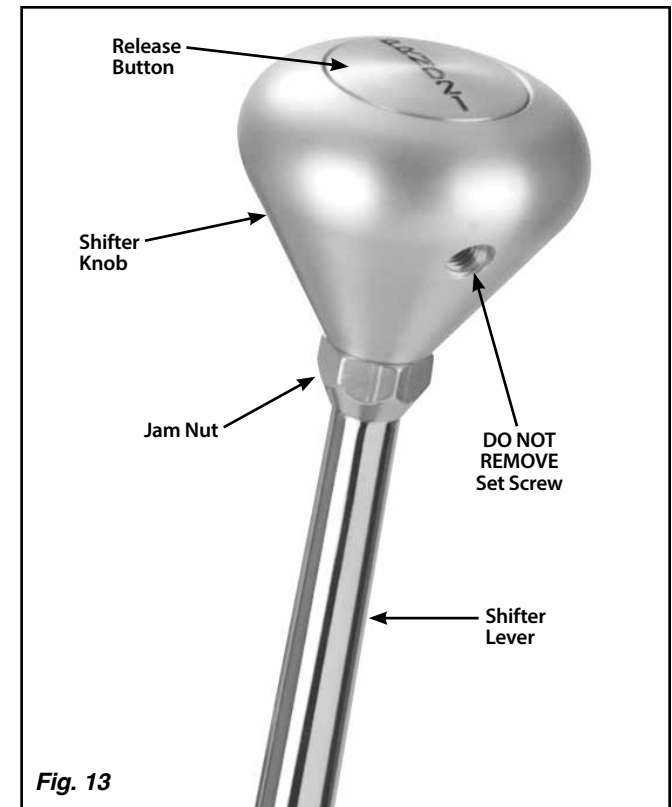

Fig. 13
- Step 2:** Loosen the jam nut below the shifter knob. **DO NOT** loosen or remove the set screw in the knob. **Fig. 13**